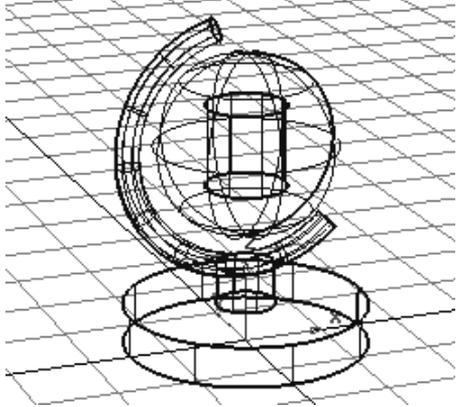

Figure 2-106 Model after creating the cylinder for the axial rod
2. Enter **0, 0, 250** in the promptline and press ENTER; the axial rod is created, as shown in Figure 2-106.